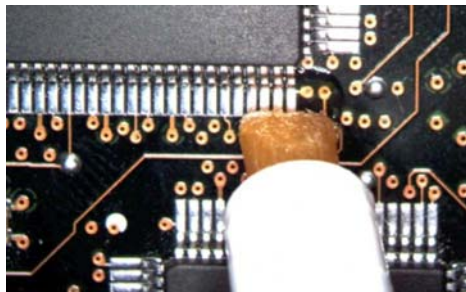

Figure 48 Applying Flux
- 1 Apply flux to your target leads as shown in **Figure 48**.